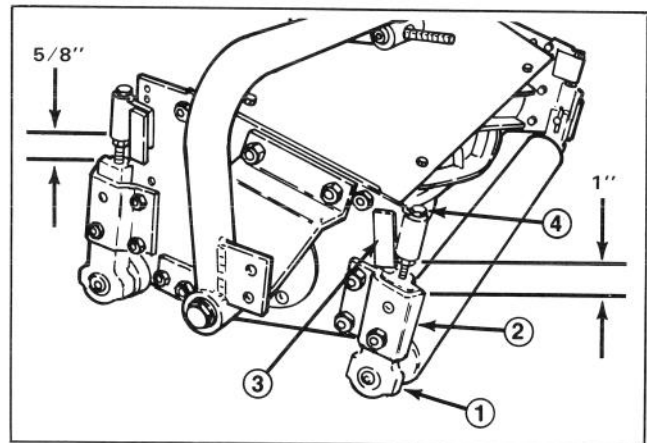

Figure 6
## LEVEL REAR ROLLER (Fig. 6)
2. Slightly loosen (crack) nut securing each roller bracket to angle bracket (Fig. 6).
3. Adjust support cap screw to achieve 1"  $\pm$  1/16 dimension between Height-of-Cut support and *front* roller bracket (2 places) (Fig. 6).
4. Adjust support cap screw to achieve 5/8"  $\pm$  1/16 dimension between Height-of-Cut support and *rear* roller bracket (2 places) (Fig. 6).